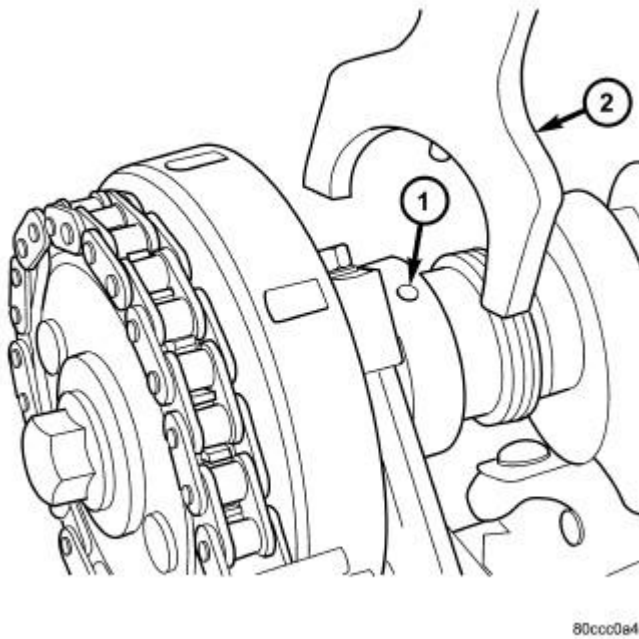

Fig. 68: Camshaft & Camshaft Holder
7. Using the Camshaft Holder (special tool #8428A, Holder, Camshaft) (2), rotate the camshaft until the camshaft sprocket dowel is aligned with the slot in the camshaft sprocket. Refer to **Fig. 68**. Install the